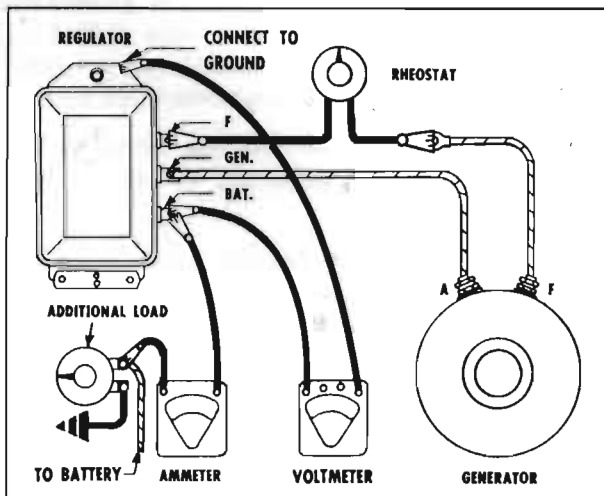

Figure 10-19—Testing Current Regulator
15. Turn on all accessory load (lights, radio, blower, etc.) and connect an additional load from the charging circuit to ground and connect ammeter as described in your test instrument pamphlet. Adjust load to obtain highest possible reading on ammeter. See Figure 10-19.